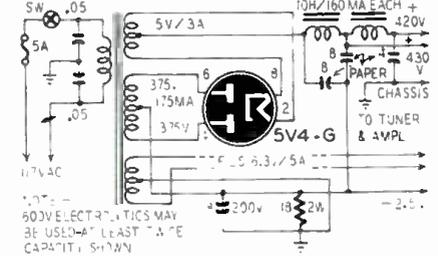

Fig. 2—Note paper capacitors in the filter.
The power supply (on a separate chassis—diagram in Fig. 2) is conventional, the only noteworthy thing about it being that it supplies 450 volts of d.c. at 170 ma at the input to the filter. We chose a slow-heating rectifier (a 5V4-G) to prevent this high voltage from being applied to the circuit before all the other filaments are warmed up. A quick-heating rectifier would bring the danger of breaking down filter and coupling capacitors.
**MATERIALS FOR POWER SUPPLY (FIG. 2)**